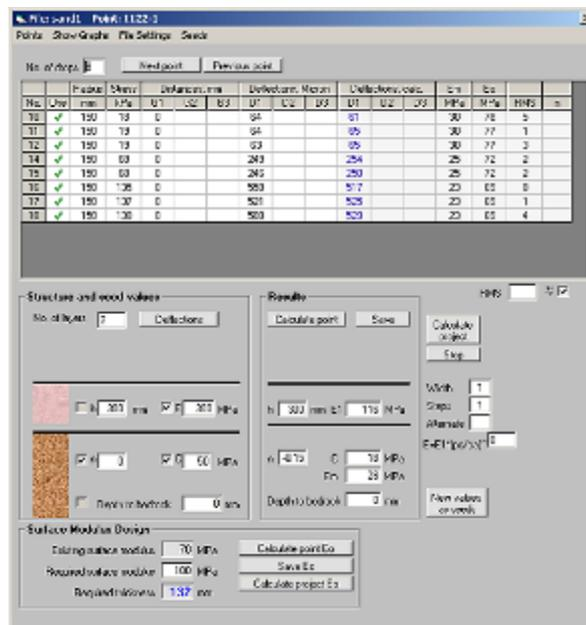

Figure 2 LWDmod surface modulus screen
- Calculation of surface moduli, as shown in Fig. 2.